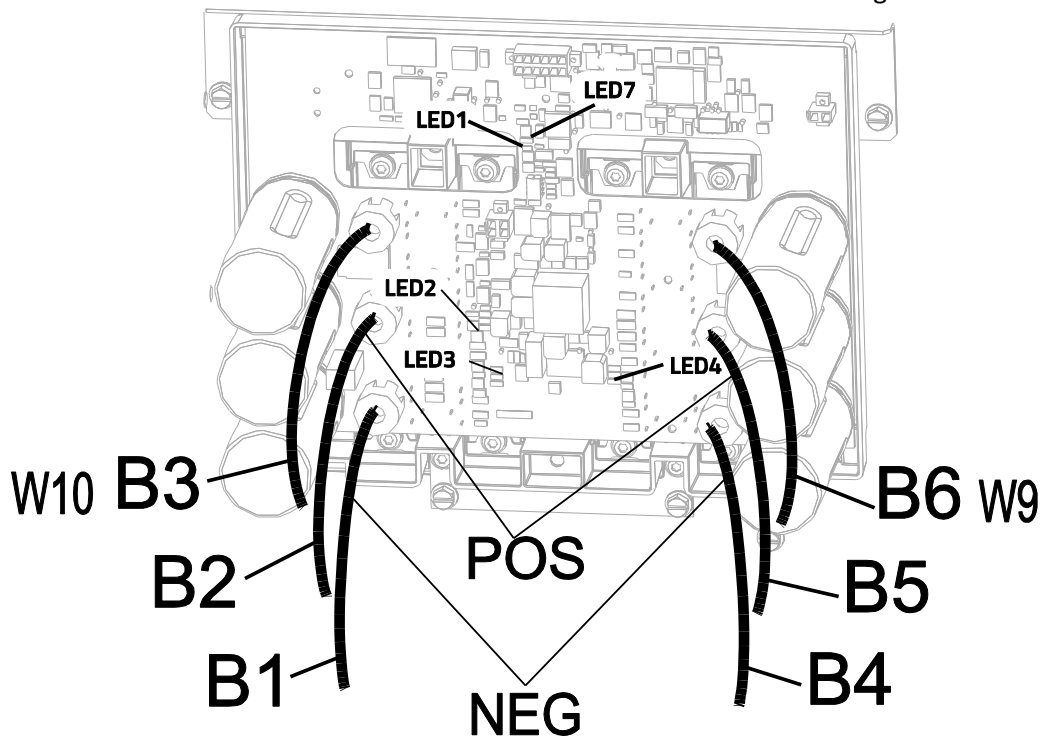

Figure F.16
13. Check for about 58 VDC between Chopper Module Terminals B2+ to B3-, and B5+ to B6 and between the welder output terminals. **SEE FIGURE F.16. SEE THE WIRING DIAGRAM.**